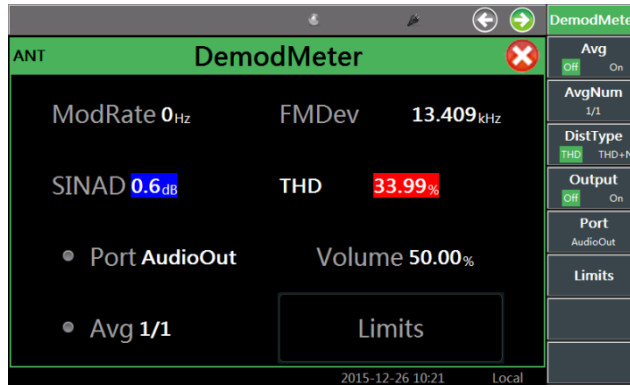

Fig. 4-10 Display Window of Frequency Modulation Deviation Measurement
- Window opening: open the demodulation meter window by pressing the [Transmitter] hard key or pressing the [Measurement] hard key and setting the instrument menu, and select the demodulation type “FM” in the receiver setting window that is opened at the same time. Select the demodulation meter and press the [Full Screen] hard key in the lower part of the screen to maximize the window, as shown in Fig. 4-10.
- Menu calling: click the touch screen, select the demodulation meter as the current active window, and the corresponding menu will be displayed in the right side of the window, as shown in Fig. 4-10.